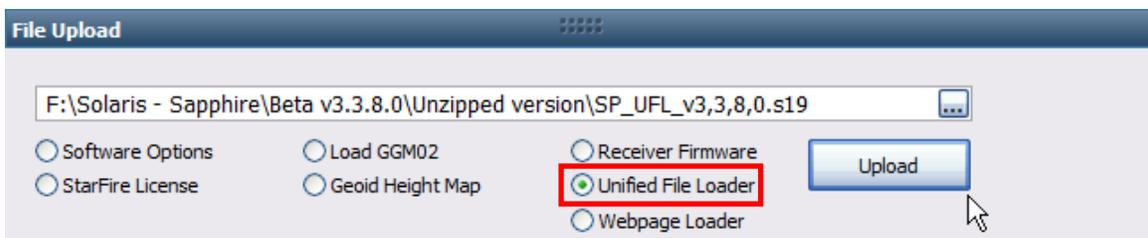

Figure 65: File Upload – Unified File Loader Option
2. Select *Unified File Loader* on the *File Upload* window (see Figure 65).
5. Select the appropriate unified (SP\_UFL) file to upload and click  (see Figure 65).